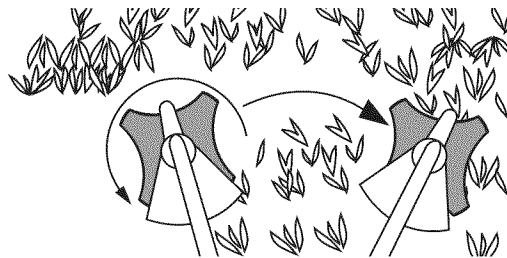

Fig. 26
- Swing the unit into material to be cut from your left to your right (Fig. 26)